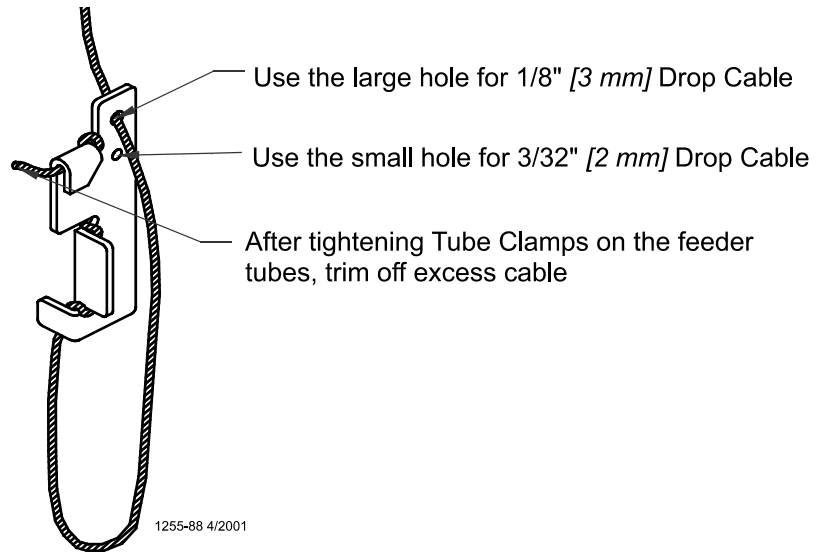

Figure 40. Cable Lock Threading
6. Install Adjustment Leveler within 6" [152 mm] of feeder line. **Figure 40** shows the proper cable routing around the Adjustment Leveler.
Finally, tighten the Tube Clamps on the feeder tubes. Clamp the joints securely, but do not crush the tubes. Re-adjust all Adjustment Levelers as needed and trim off excess cable as shown in **Figure 40**.